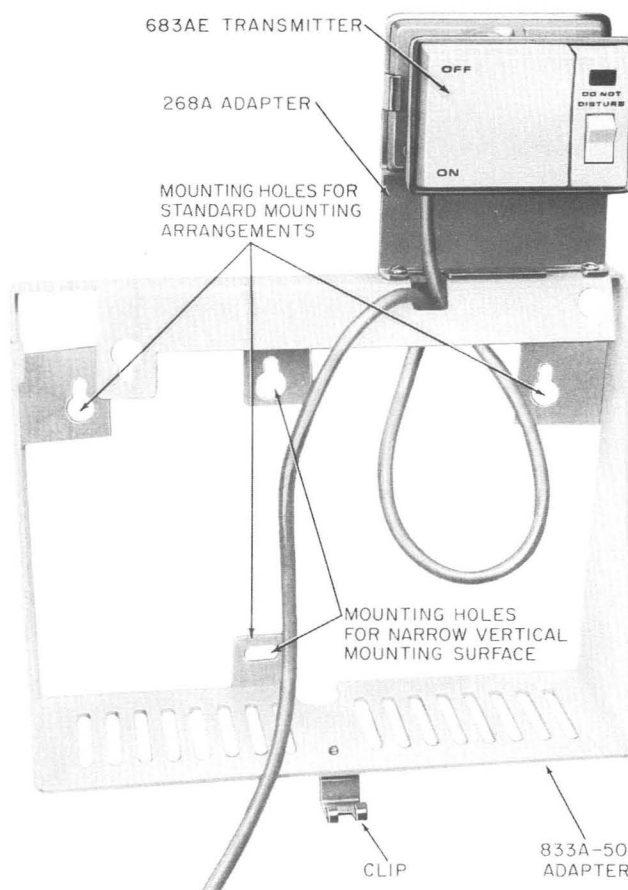

Fig. 5—833A-50 Adapter With 268A Adapter and 683AE Transmitter
3.02 All DM and EM (wall type) sets are shipped with an 833A-50 adapter, screw, and clip (Fig. 5) which are used for mounting the telephone set to a vertical surface. Install the 833A-50 adapter and telephone set as follows.
(4) Secure the telephone set base with the clip and screws at the bottom of the adapter (Fig. 5).
(5) Install the telephone set options (see paragraph 3.05).
(6) Replace housing and faceplate.
(a) Mount 268A adapter onto 833A-50 adapter with two screws as shown on Fig. 5 with the tabs of the 268A adapter facing outward from the vertical surface. The 683AE-50 transmitter is secured by sliding the transmitter downward between the tabs on the adapter. The telephone set end of the transmitter cord enters the telephone set and is attached to the telephone set
- (4) Also included with the 683AE transmitter (furnished with the HFAI feature) is a manual DO-NOT-DISTURB switch. Depression of the switch (Fig. 5) prevents voice signaling, alerting tone, and activation of the microphone. A distinctive tone is sent to any station that is calling another station on *dial intercom* when the called station does not want to be disturbed. The only signal that can be received by a station or answering position with the DO-NOT-DISTURB switch activated are tone ringing and the alerting tone and one way voice signaling associated with an *automatic signaling intercom*.